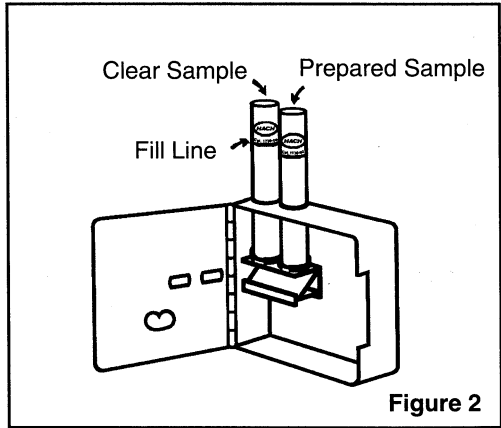

Figure 2
3. Insert the lengthwise viewing adapter into the comparator as illustrated in Figure 2.
5. Place the tube containing the prepared water sample into the comparator opening labelled "Prepared Sample Position" in Figure 2..
6. Fill the other sample tube with untreated water or a reagent blank to the line as described in Step 4. Insert this tube into the comparator opening labelled "Clear Sample Position" in Figure 2.